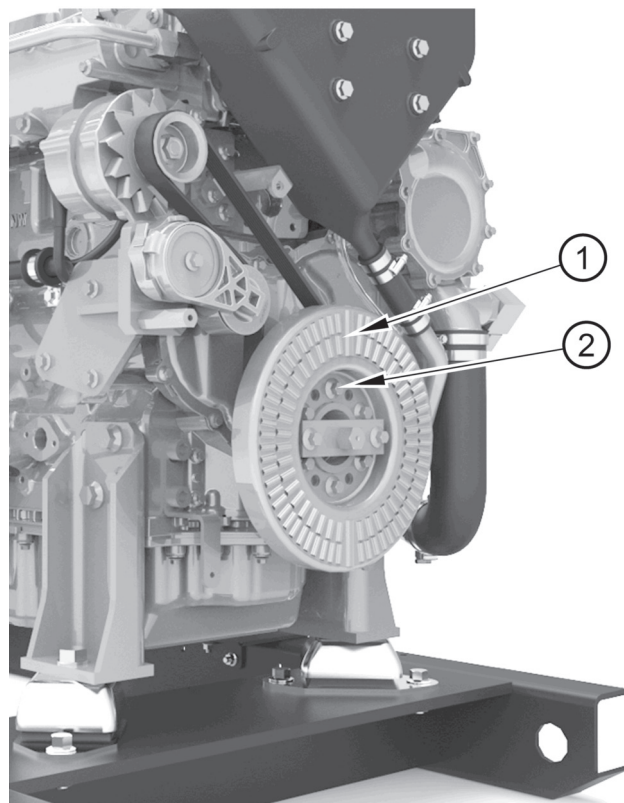

Figure 41
Check that the six bolts (figure 41 item 2) for the viscous damper are tightened correctly: